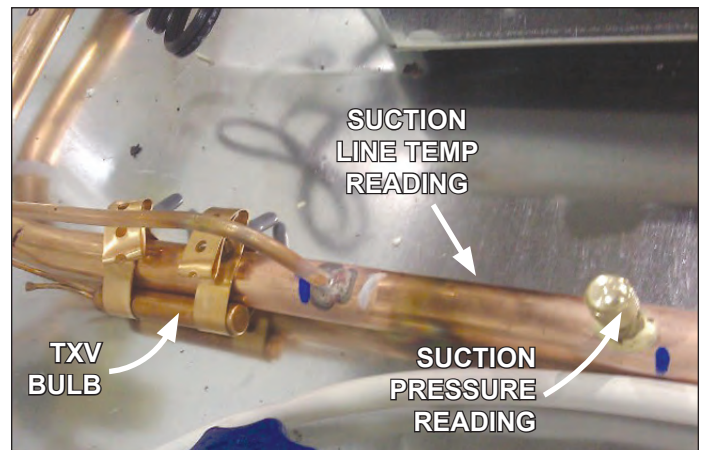

Fig. 16 Obtain pressure and temperature readings
1. Obtain suction pressure from the access port. Obtain the suction line temperature from the area near the TXV bulb at the outlet of the evaporator coil (Fig. 16).